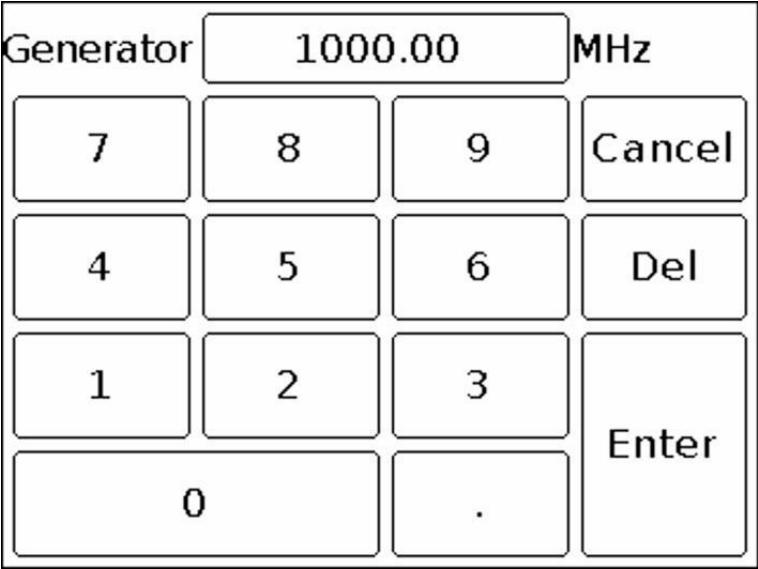

Figure 15 – Entering the numerical value of the frequency of the output signal of the generator
7.6.3. Setting the frequency of the output signal of the internal generator, Frequency, is done by entering a numeric value in the opened submenu, as in Figure 15. Enter a numeric value for the generator output frequency, between 35 and 6200 MHz, and press Enter. To delete erroneous or previously entered values, press Del. To refuse to enter a value, click Cancel. In our example, in figure 15, the output frequency of the generator is set to 1000 MHz.